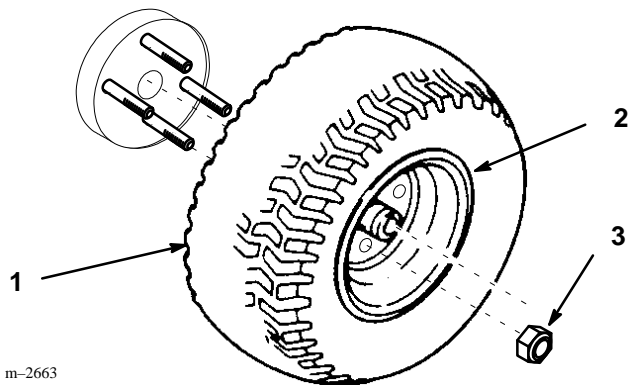

Figure 1
2. Remove rear wheels from traction unit (Fig. 1). Save mounting hardware.
4. Install rear wheels onto traction unit with previously removed hardware (Fig. 1). Tighten nuts securely.